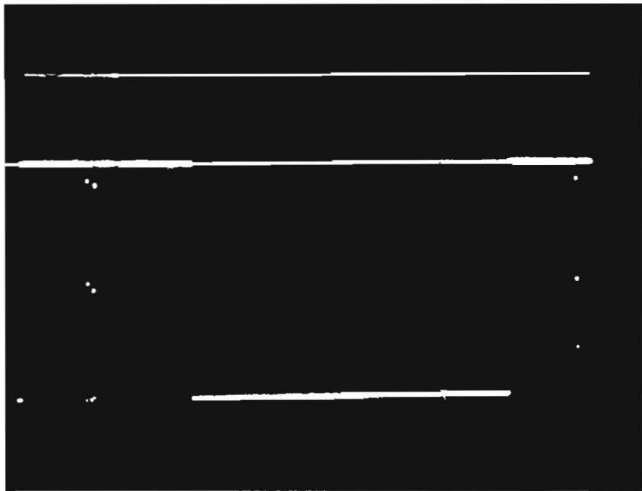
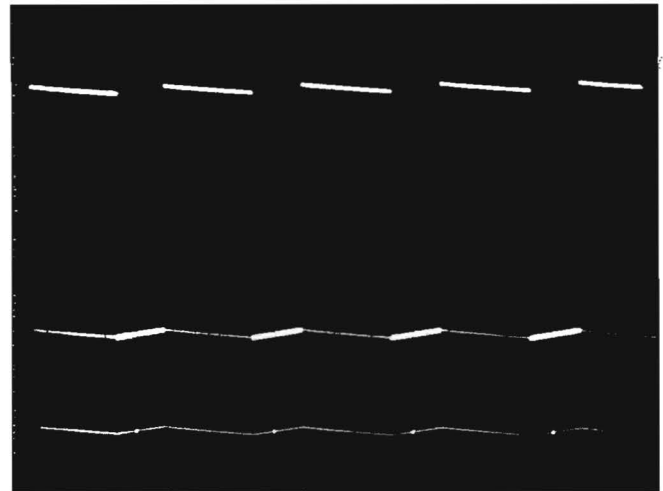

Fig. 6 Field rate squarewave available from the 147 and 148 test signal generators.
Fig. 7 Tilt in field rate squarewave due to 0.1 sec RC coupling time constant causes Field Time Distortion.
Tektronix has developed a "field rate squarewave" with composite sync pulses added. This is in the new 147 and 148 test generators and is shown in Fig. 6. This is not a true squarewave because of the sync and blanking pulses. It will exhibit the same sensitivity to distortion as a true squarewave of 60 Hz (50 Hz in the 148, designed for 625/50 standards). Fig. 7 shows a tilt due to a 0.1 second RC coupling time constant.
**This photo was taken using the 0.1 sec RC coupling, same as Fig. 7 and 8.*